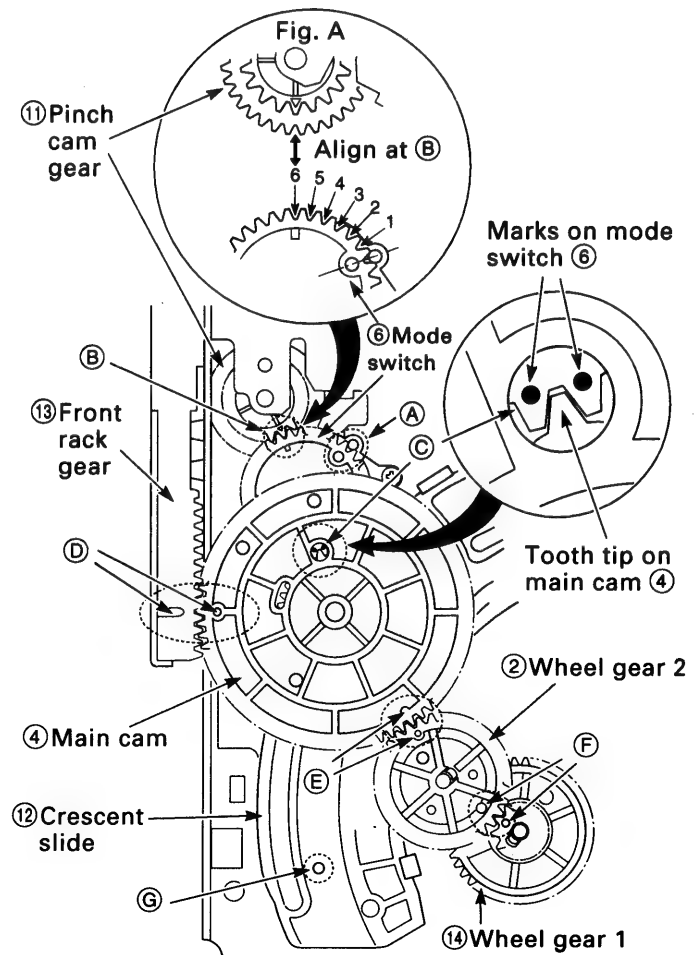
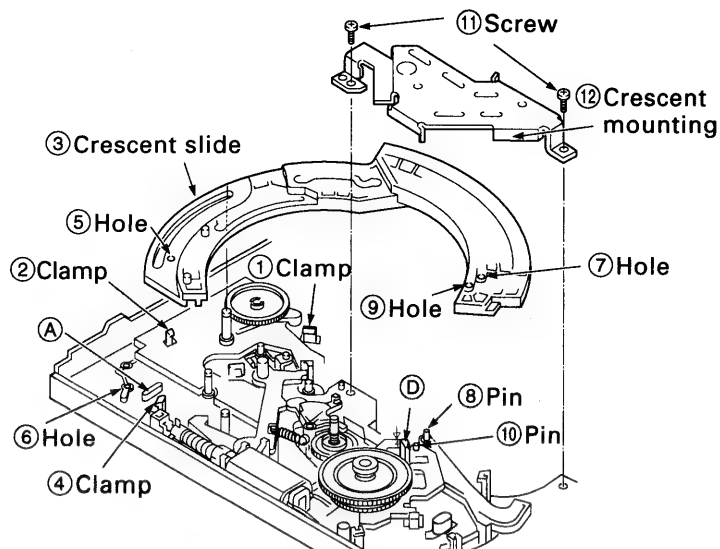
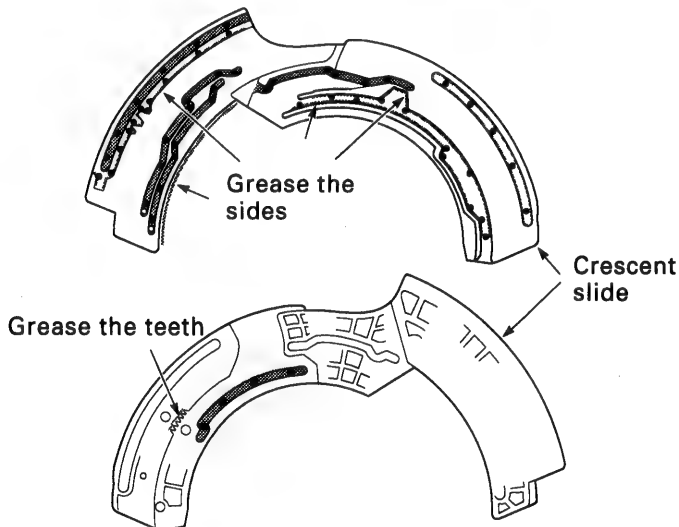

Fig.3-15-2
Fig.3-16-1
Fig.3-16-2
1. Apply grease (VHJ-0100) to the shafts ⑧, ⑨ and ⑩, to the teeth of the main cam ④, and to the all over the cam groove of main cam ④.
2. When fitting the mode switch ⑥, align it in (A)(B) order as shown in Fig.3-15-2. The alignment of the part (B) is shown in Fig. A. Position the teeth of the mode switch ⑥ so that the sixth tooth space left of part (A) is aligned with the triangular mark on the pinch cam gear ⑪. After aligning part (B), refer to section 3-9-2 and check the positioning of the mode switch, the pinch cam gear and the pinch lift cam.
4. Align the hole in the crescent slide ⑫ with the hole in the mechanism chassis, as shown at point (G) in Fig.3-15-2 (refer to section 3-16 and see the holes ⑤ and ⑥ in Fig.3-16-1).
5. When fitting the main cam ④, position the mode switch ⑥ and the front rack gear ⑬ as shown at points (C) and (D) respectively in Fig.3-15-2.
6. When fitting the gear wheel 2 ②, position the main cam ④ and the wheel gear 1 ⑭ as shown at points (E) and (F) respectively in Fig.3-15-2.
(See Figs.3-16-1 and 3-16-2)
1. Apply grease (VHJ-0100) to the points A,B,C and D in Fig.3-16-1, and to the crescent slide ③ shown in Fig.3-16-2.